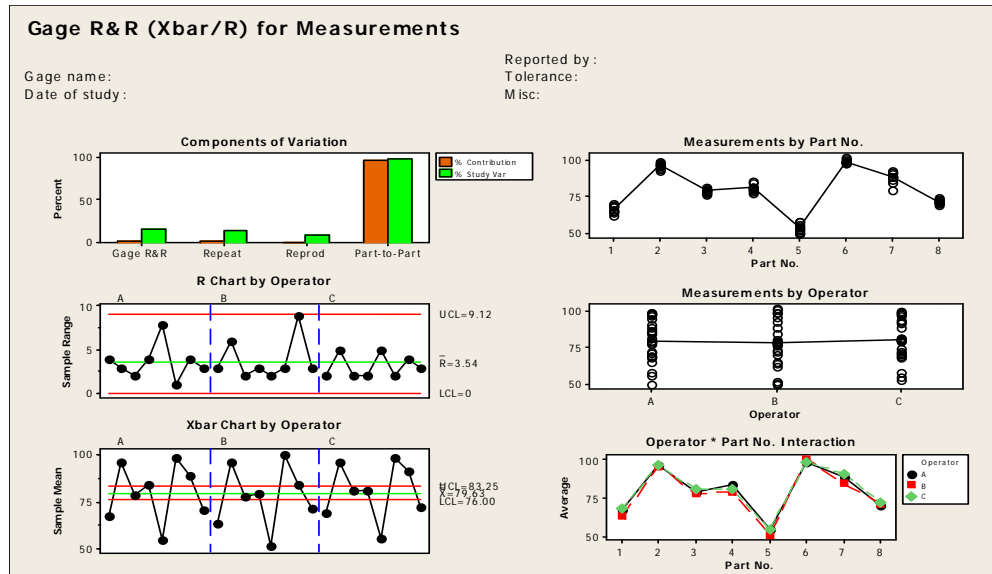

Figure 7.16: Graphs for Gage R&R: Xbar and R Method GAGE3.MTW Data
The Gage R&R: Xbar and R analysis provides graphs for the analysis of measurement data. Figure 7.16 shows the graphs for this example.
*INTERPRETATION OF PLOTS IN FIGURE 7.16*
The Gage R&R study produces six graphs shown in Figure 7.16. These graphs provide additional insight for improvement opportunities. Each graph in Figure 7.16 is described below.